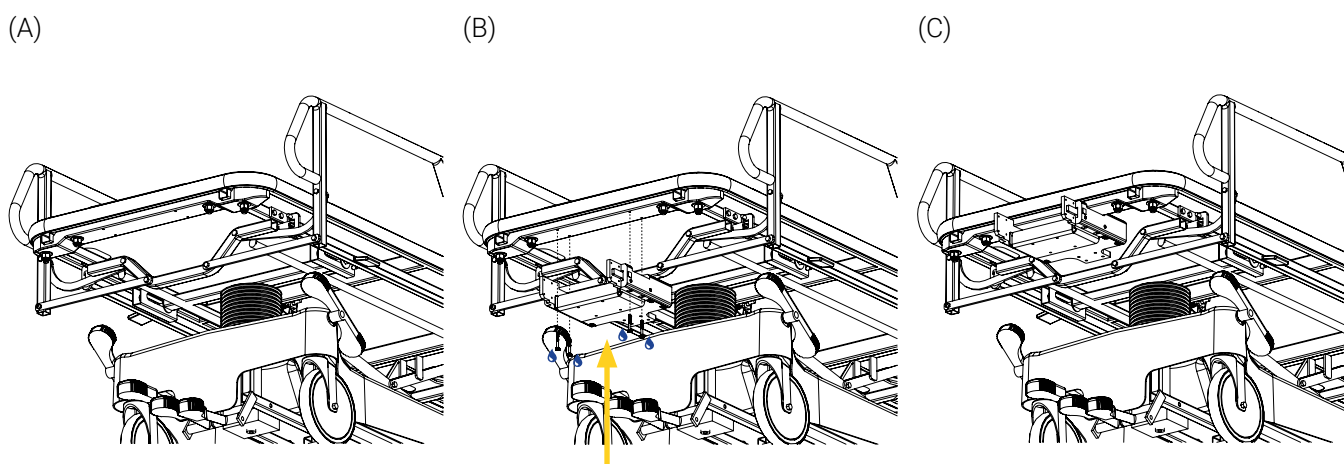

Figure 63: Installing the column base
4. Place the column base under the support structure, then partially tighten four (4) by hand in a cross-pattern, then tighten four (4) M5 0.5 mm X 405 mm L hex head screws coated in medium strength thread-lock adhesive by hand before tightening using a 4 mm hex key (Figure 63).